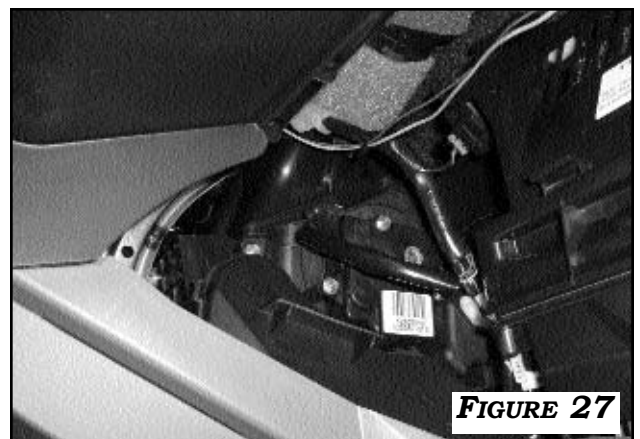

FIGURE 27
3. ROUTE THE GREEN AND BROWN CRUISE ECM HARNESSES TO THE ECM BEHIND GLOVE BOX AREA WITH THE EXISTING VEHICLE WIRING HARNESS AS SHOWN IN **FIGURE 27**. SECURE THE HARNESSES WITH WIRE TIES.